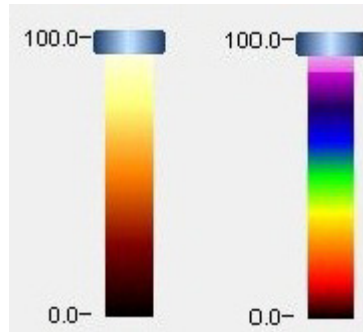

Fig. 127. Transparency slider showing Heat colormap (on the left) and Rainbow colormap (on the right)
2. Select the used colormap (Figure 127).